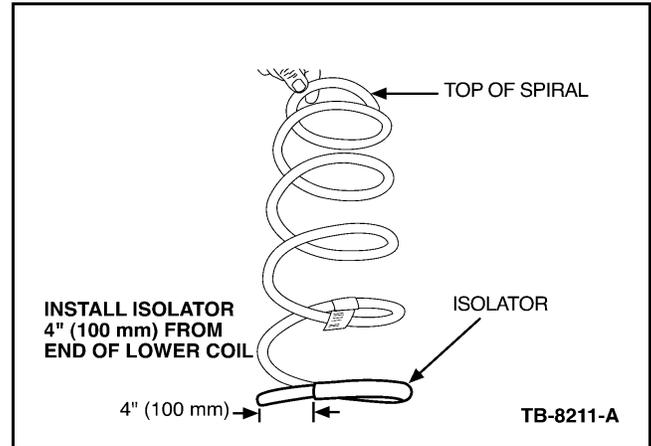

Figure 1 - Article 07-18-1
3. If the springs do not have a rubber isolator on the bottom spring coil, install isolators. Clean off any dirt prior to installing the isolator. The isolator should be installed 4" (100 mm) from the end of the coil (Figure 1).